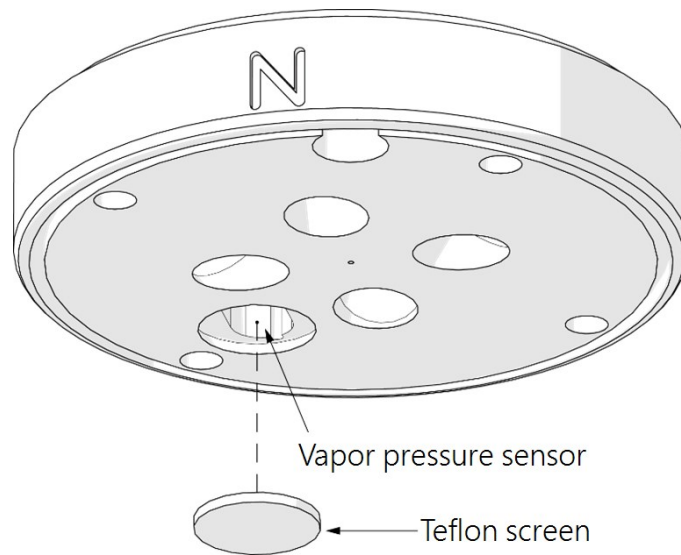

Figure 9-4. Teflon screen
4. Inspect the Teflon screen (Figure 9-4 (p. 31)) and replace if dirty.
7. Relative humidity and barometric pressure maintenance. A field-replaceable module contains the barometric pressure and relative humidity sensors. This module is under the Teflon screen (Figure 9-4 (p. 31)) and should be replaced every two years.